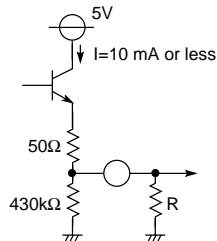

Fig. 2
5. The R, G and B output pins (pins ⑳, ㉑ and ㉒) are as shown in Figure 2. Pull-down resistance can be added to between GNDs according to the driving capability. However, set the R value to limit current I to 10 mA or less. In Figure 2, R is 500Ω or more.